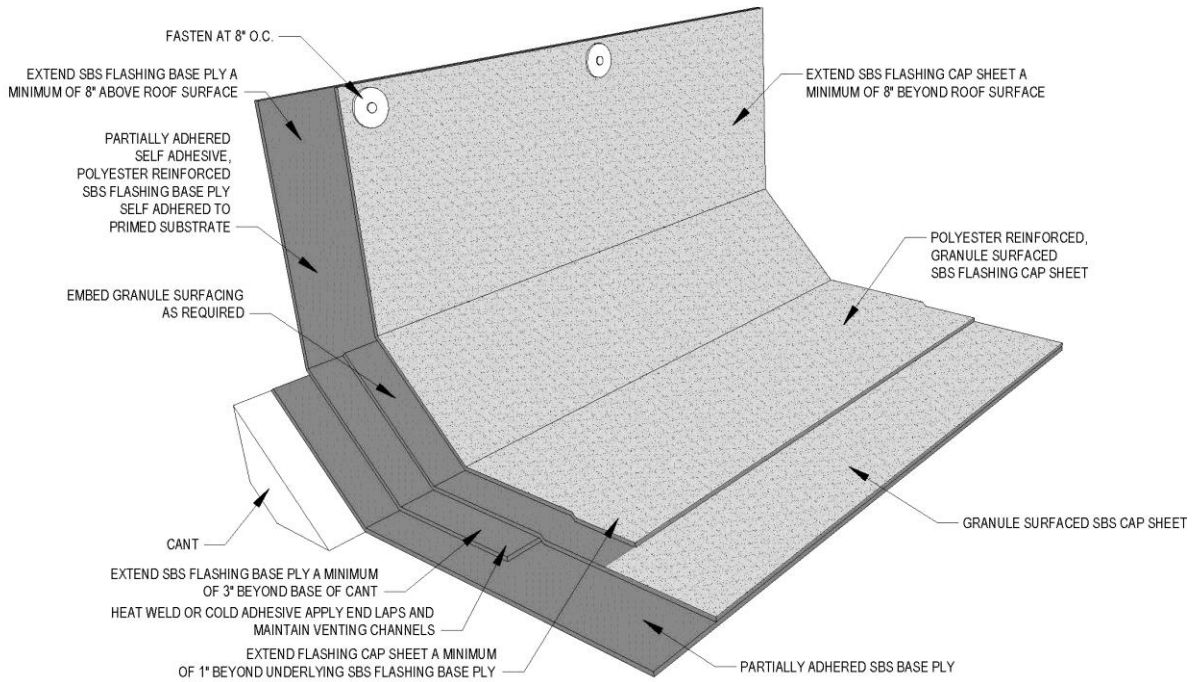

Figure 3.4.4a Partially Adhered, Self-Adhesive Flashing Base Ply at Wall/Curb On Granular Surfaced Cap Sheet With Cant
- Partially adhered, flashing base plies are limited to vertical flashing applications such as walls and curbs. Refer to Figures 3.4.4a through 3.4.4f. Flashing base plies at roof drains and all horizontal details should be fully adhered by heat welding or fully adhered using specified COLPLY™ flashing cement. Refer to Table 3.1.2a for heat welded flashing base plies and Table 3.2.2a for cold adhesive-applied flashing base plies.